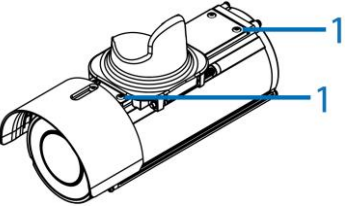

Figure 10
5. Securely attach the mounting arm plate to the camera with the four T10 screws (1) (Figure 10) on the mounting arm plate.